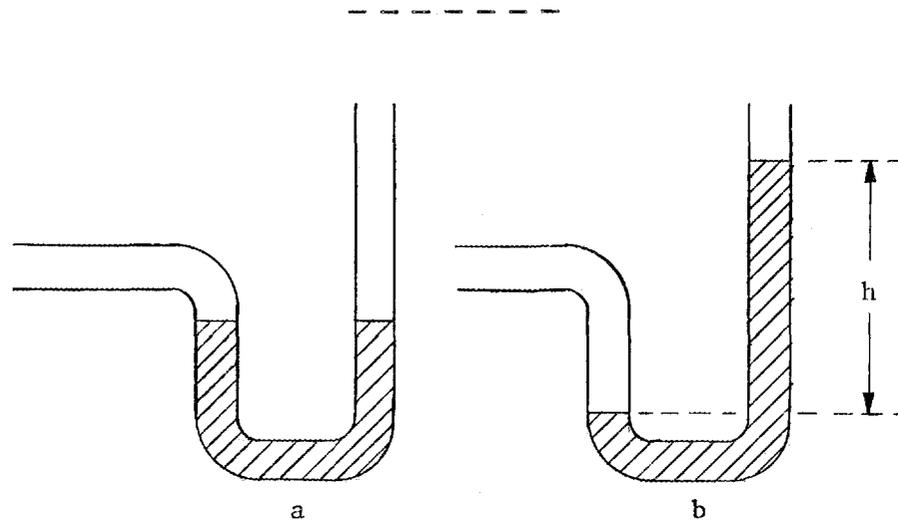

Fig. V-57. The Manometer
2. Two common pressure-measuring instruments are the manometer and the Bourdon gauge. The manometer is merely a U-shaped tube filled with a liquid as shown in Figure V-57.